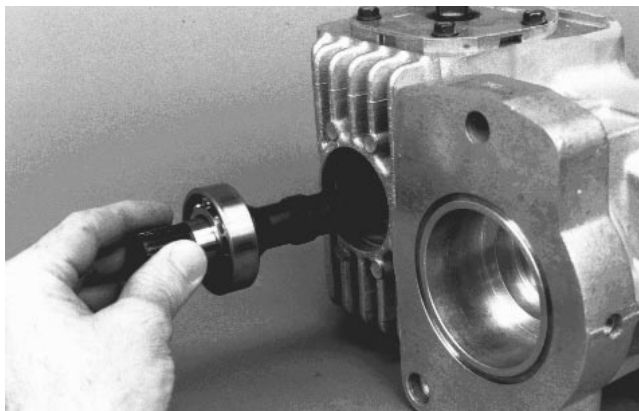

Figure 54
15. Slide pump shaft and bearing assembly from housing. Press shaft out of bearing (Fig. 54).